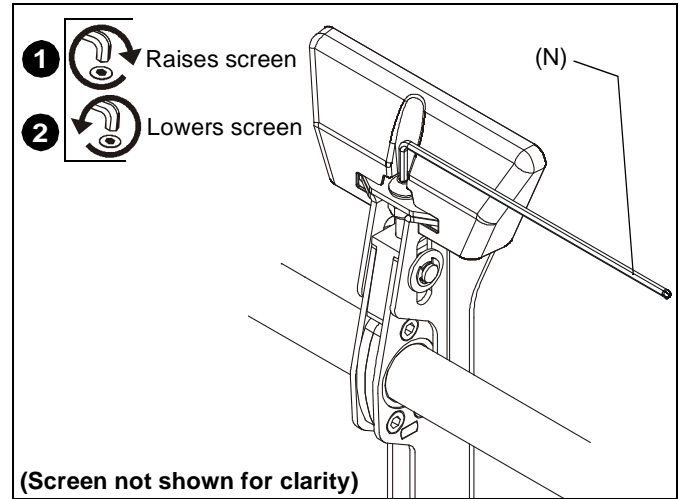

**Figure 13**
1. If necessary due to height of tall screen, add pull knob (R) to bottom of interface brackets (V and W) to allow easier accessibility for adjustment purposes. (See Figure 13)
2. Adjust length of pull knob so it is not visible below screen. (See Figure 13)